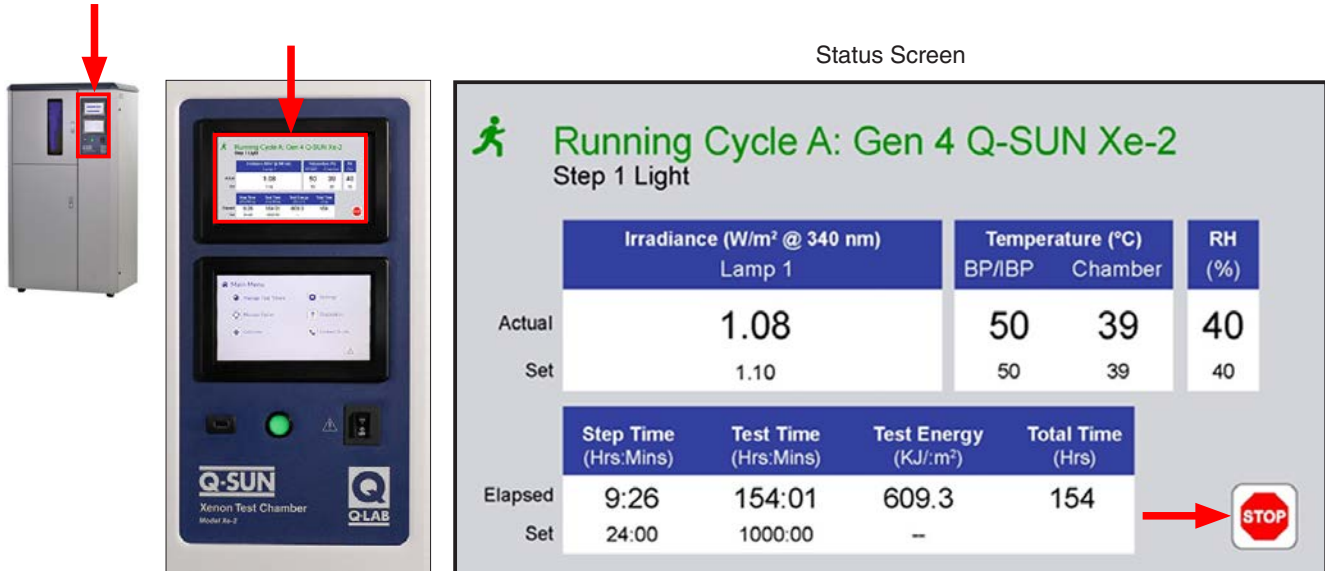

Figure 2.2a: Stop icon on the Status Screen.
- Touch the stop icon on the Status Screen (Figure 2.2a) before opening the chamber door (see Section 12.2 for more information on the Status Screen).